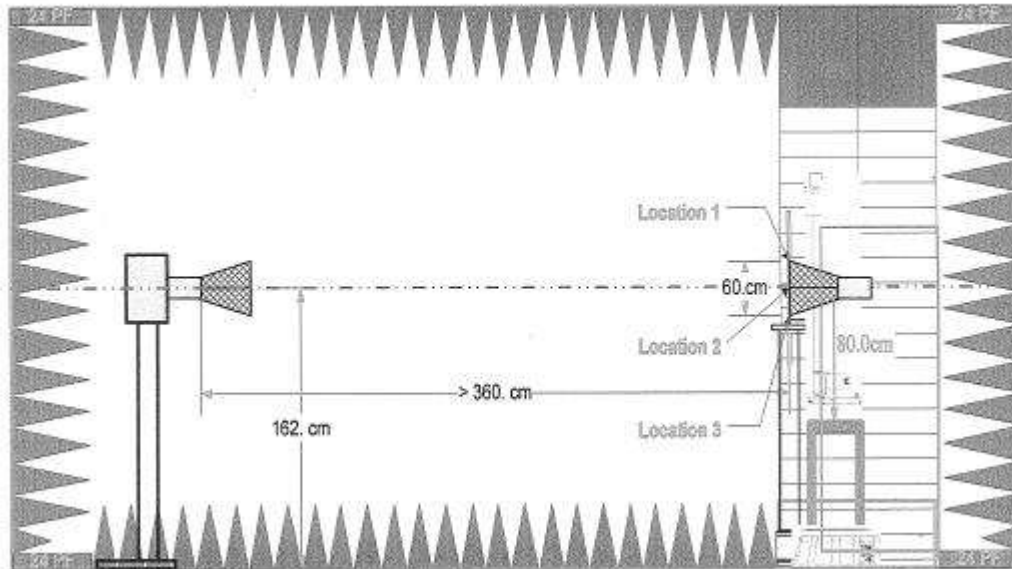

Figure 2. Quiet Room
- Equipment: Anechoic Chamber (Fig. 2), Network Analyzer (Agilent E8753ES)